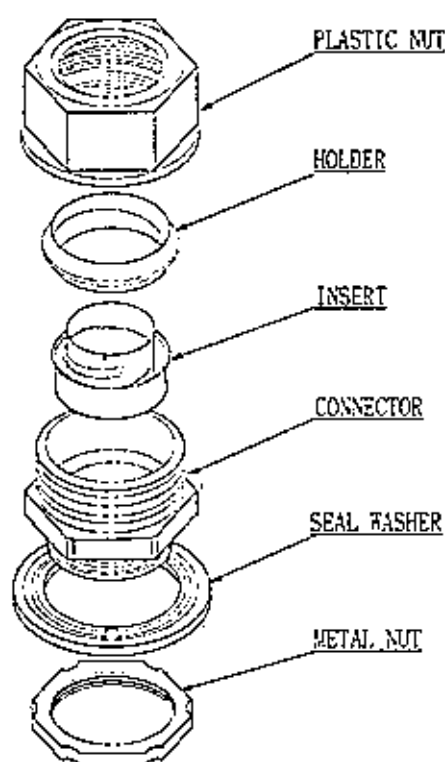
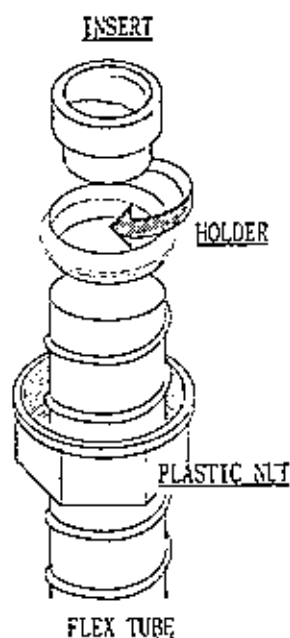

FIG. 19.2
FIG. 19.3
- ③ Attach CONNECTOR 22 to the both ends of FLEX TUBE, and assemble the PROTECT TUBE. First, disassemble CONNECTOR 22 (Fig. 19.2).
- ④ First pass the plastic nut through the flex tube. Otherwise, the following work can not be performed and therefore, be very careful of this point.
- ⑤ Install the holder and then the "insert" for both ends of the flex tube by turning them as in bolts and nuts (Fig. 19.3).